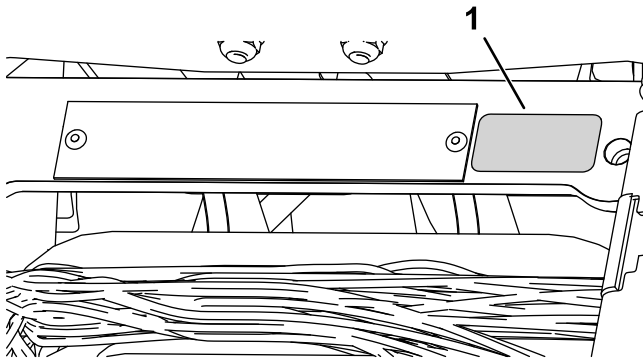

Figure 11
- Install the production year decal near the serial plate (Figure 11).